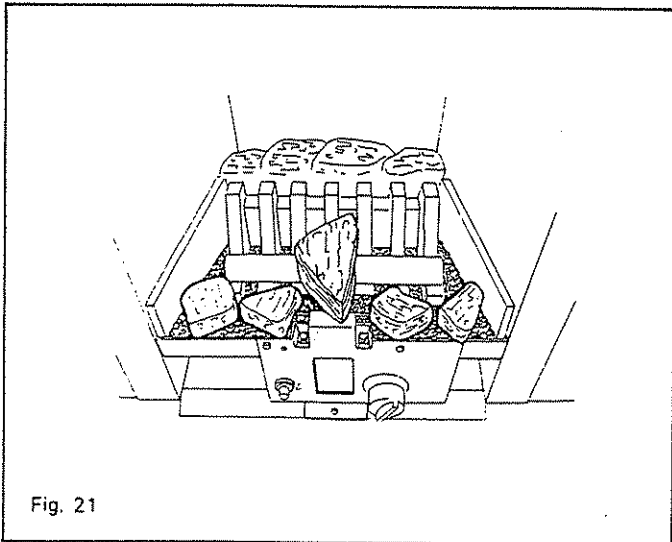

Fig. 21
7.7.5.2 Place four of the smaller coals along the front of the fire. For best effect leave a space between each of the coals and also a space between the coals and the coal support grid (see fig. 21).